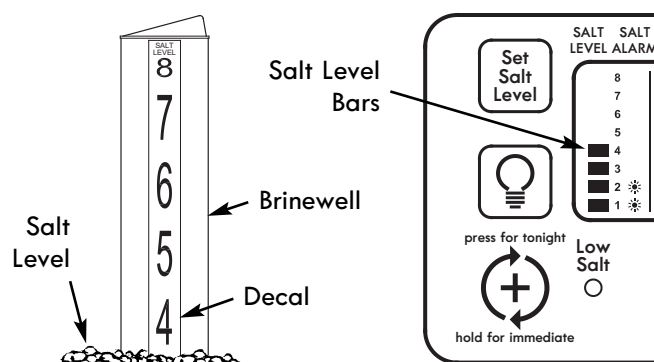

Figure 23
2. The yellow salt level decal, on the brinewell inside the tank, has numbers from 0 to 8 (see Fig. 23). Observe the highest number the leveled salt is at, or closest to.
3. Press the SET SALT LEVEL button as many times as necessary to make the salt level bars in the display (see Fig. 23) match the number on the decal. At level 2 or below, the “Low Salt” indicator will flash.